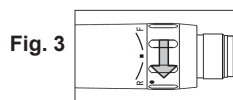

Fig. 3
2. Reverse Rotation: Turn FWD/REV regulating sleeve to "R". (Fig 3)